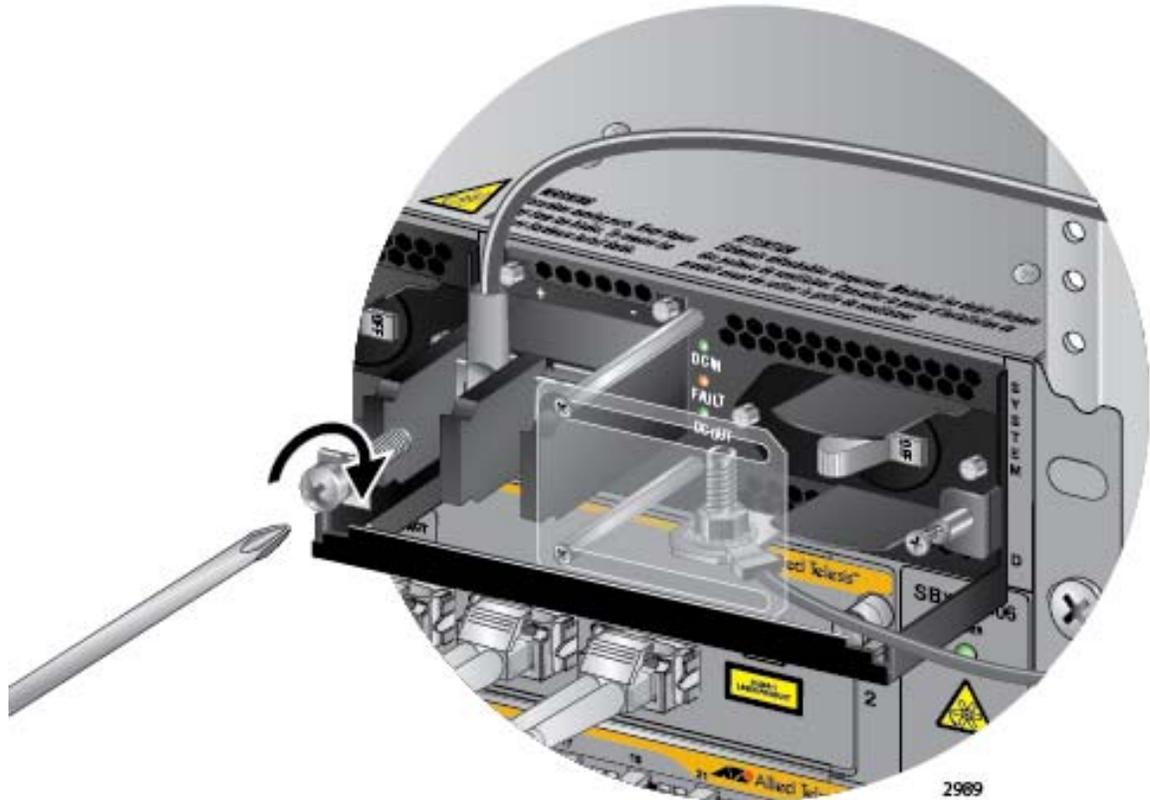

Figure 118. Connecting the Positive (+) Power Wire with a Straight Terminal
6. With a #3 Phillips-head screwdriver, connect the positive (+) power lead wire to the positive terminal on the power supply, with one of the terminal screws removed in the previous step. The positive terminal is on the left. You may attach the terminals with the wires either above or below the terminal block. Figure 118 on page 163 shows the positive wire above the terminal block.